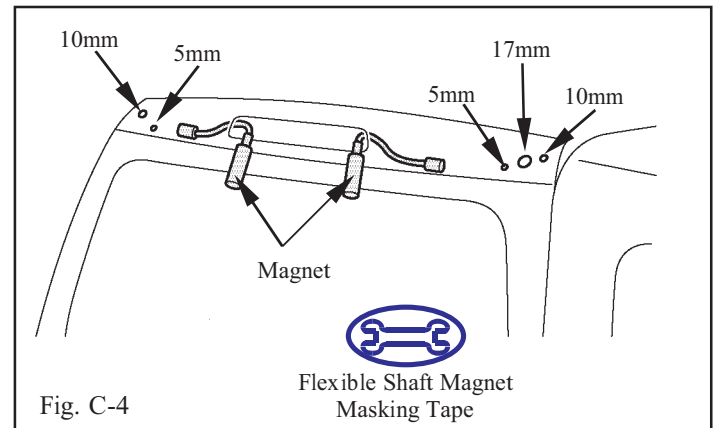

Fig. C-4
- ➔ 8. De-burr drilled holes (5 locations). Mask adjacent areas with adhesive tape. (Fig. C-4)
- ➔ 11. Insert magnet through the high-mount stop-lamp hole and plug holes to remove metal chips. (Fig. C-4)